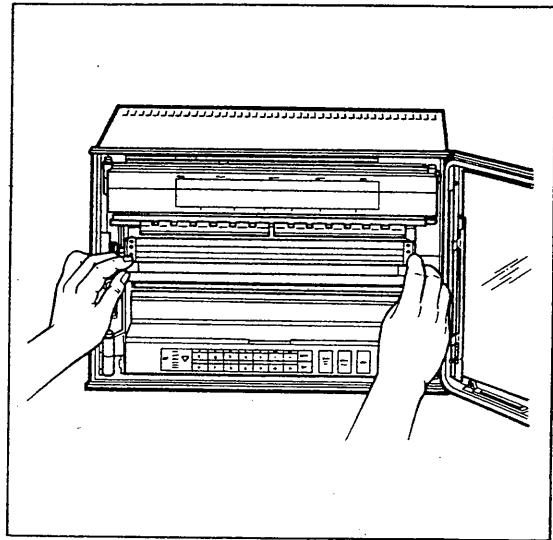
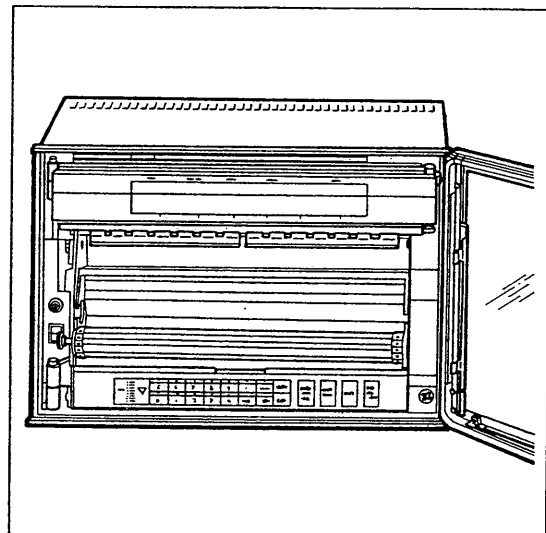

Figure 5-3.
Figure 5-4.
- (4) Gently pull down the chart paper compartment tabs located near the right and left ends of the chart feed roller (see Figure 5-3); the chart paper compartment comes down once and if you gently pull down the tabs again you can access the chart paper (see Figure 5-4).